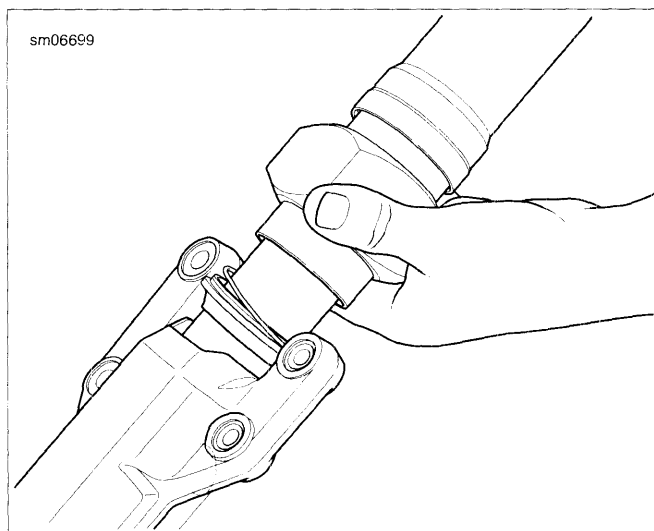

Figure 2-187. Seating the Oil Seal
4. See Figure 2-187. Seat the oil seal with the FORK SEAL DRIVER AND DUST BOOT INSTALLER (Part No. B-42571).